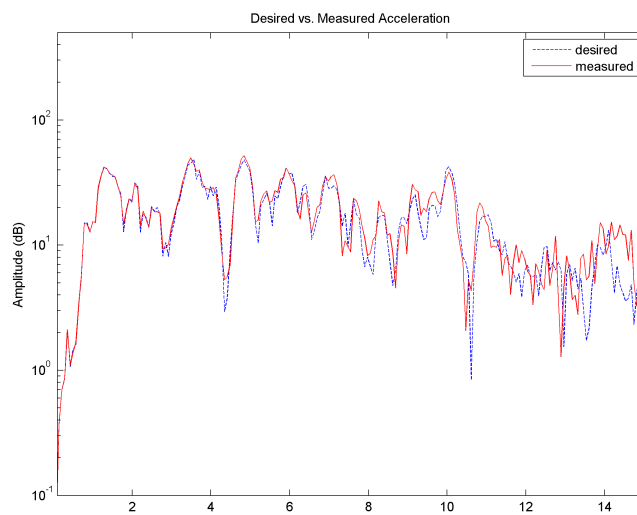

Figure 3.14: FFT of desired and measured acceleration.
3. To produce the acceleration power spectrum,  $A(\omega)$ , similar to Figure 3.14, run *fft\_eval\_acc.m*. The blue and red traces are the desired and measured accelerations, respectively.